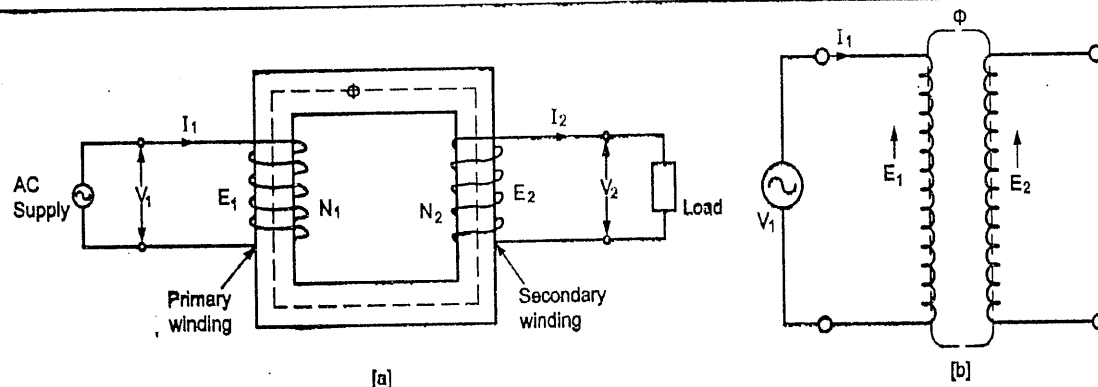

FIG. 3.8 : WORKING PRINCIPLE OF TRANSFORMER
- A simple form of a transformer is shown in Fig. 3.8. It consists of two separate windings placed over the laminated silicon steel core.
- When an alternating voltage V_1 is applied to the primary winding, the current I_1 flows in it producing magnetic flux ϕ in the core as shown in Fig. 3.8.